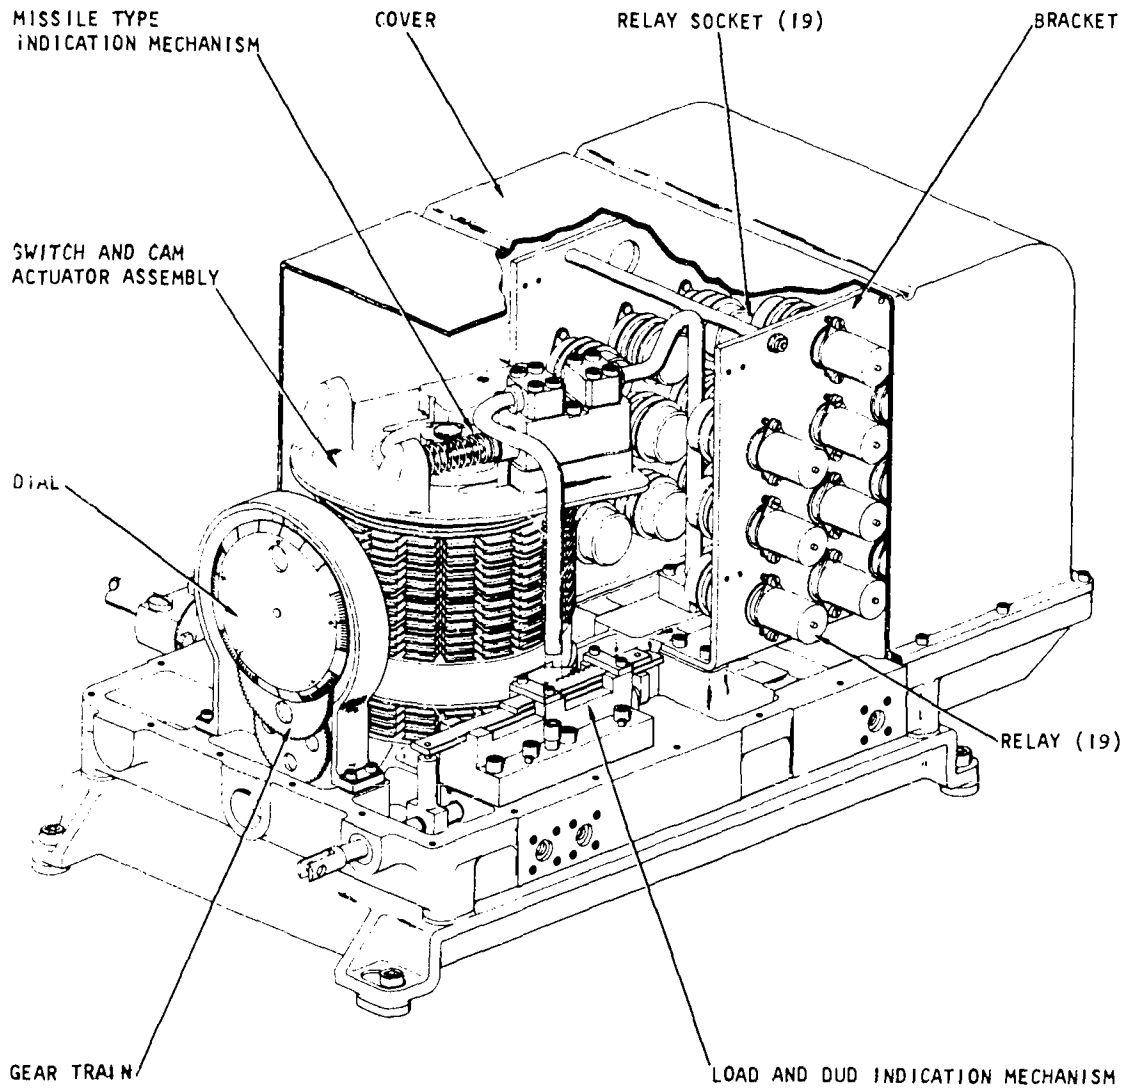

Figure 5-10.—Load status recorder.
**LOAD STATUS RECORDER.**—We mention the load status recorder here as an example of a complex electromechanical assembly. (fig. 5-10). One is located on each ready service ring, mounted on the outboard side of the truss. Its two basic sections are a relay board assembly and a switch and cam actuator assembly. It monitors the missile type and condition at all 20 stations in the ready service ring and sends this information to the control panels (EP2, and EP4 (5) in the form of interlock switch and visual